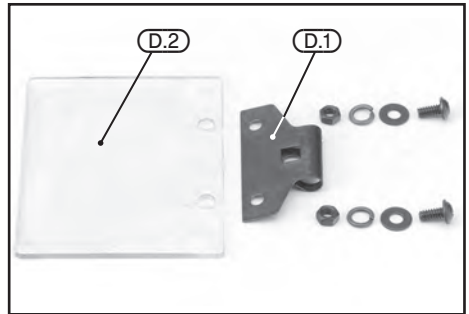

FIG.4
8.5 ATTACHING THE EYE SHIELDS – FIG.4
- Attach the eye shields using the fittings from group (D) shown in 7.2 WHAT'S IN THE BOX section on page 12.
- Place the eye shield frame (D.1) over the eye shield (D.2) fasten the two parts together using the long screws, washers and nuts, as shown in Fig.4. **Note:** Do not overtighten as the eye shield may crack.